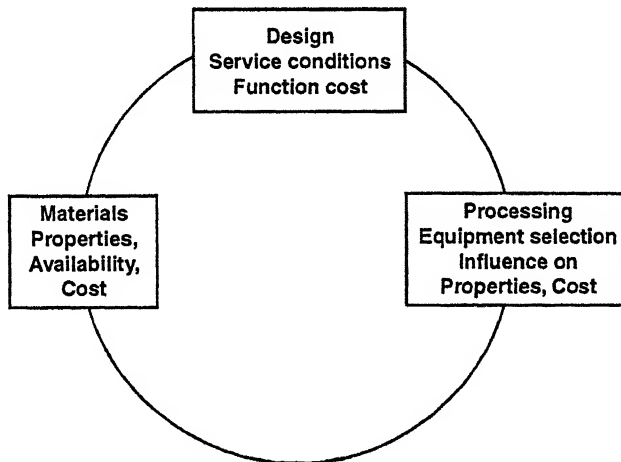

Fig. 7.13.
**Ans.** Producing design of any product is a critical link in the chain of events that starts with creative ideas of design and ends with final and successful product in the market place. In modern technological age the function of production is not a routine activity. Rather we can say that *design, material selection and processing are closely related each other* as shown in Fig. 7.13.